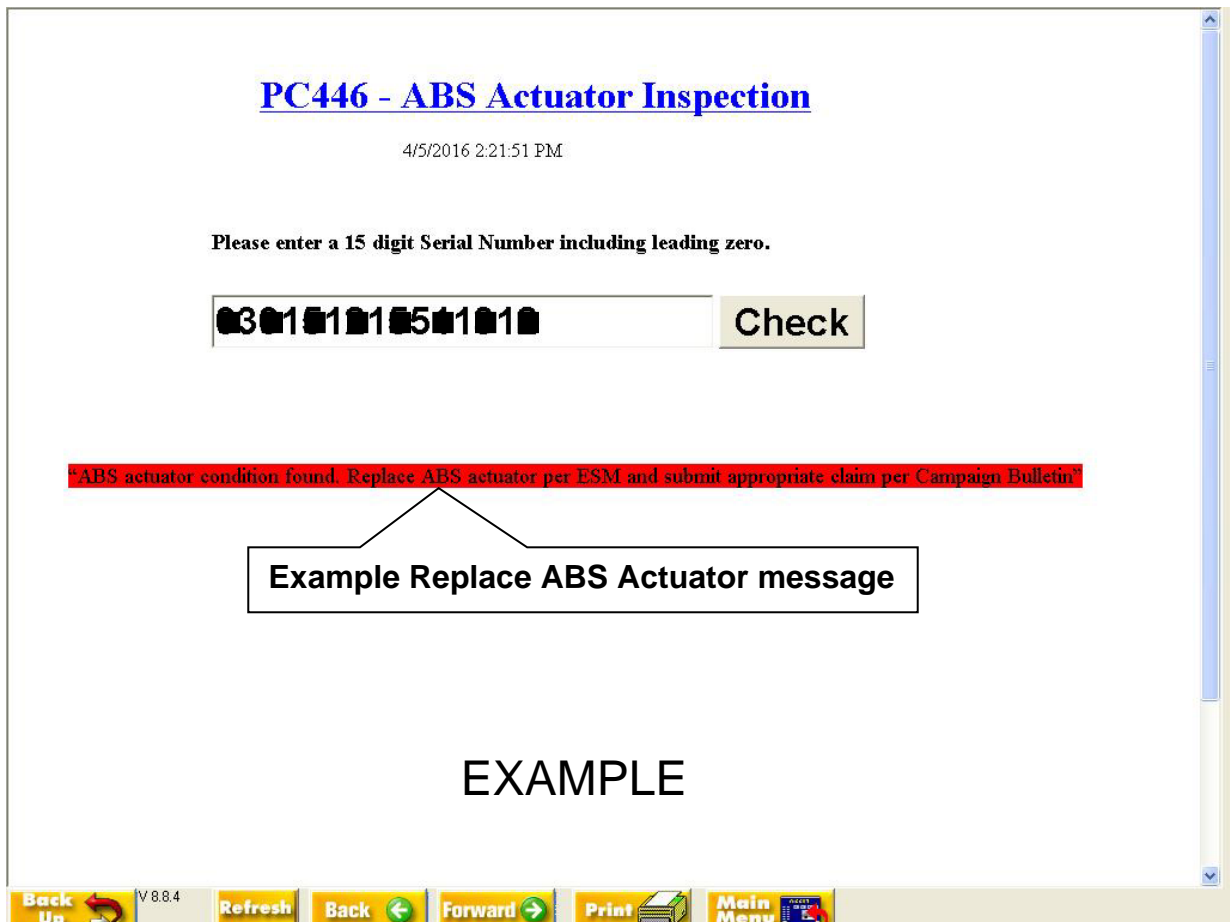

Figure 6
- If your ABS control unit (ABS Actuator) is NG, the **Replace ABS Actuator** message shown in Figure 6 will display.
- The screen in Figure 6 showing the 15 digit serial number and the **Replace ABS Actuator** message, **MUST** be printed and attached to the repair order for warranty documentation.
9. If you get the **Replace ABS Actuator** message as shown in Figure 6, replace the ABS Actuator and Electric Unit (ABS control unit).